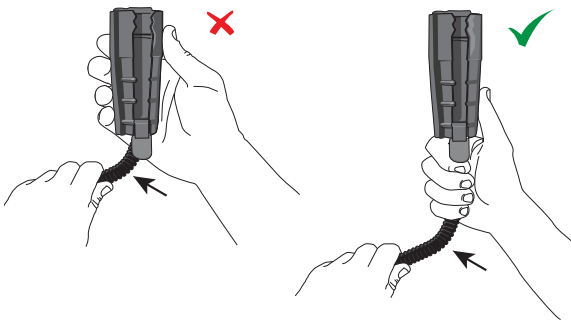

Figure 16
- e. A cable bend that is closer than 4 inches (102 mm) from the installed closure could create a bend inside the closure and will likely not allow a proper seal. A good way to gauge the 4 inch (102 mm) distance is to mirror the palm of an average man's hand. A bend should not occur in this area. See Figure 16.